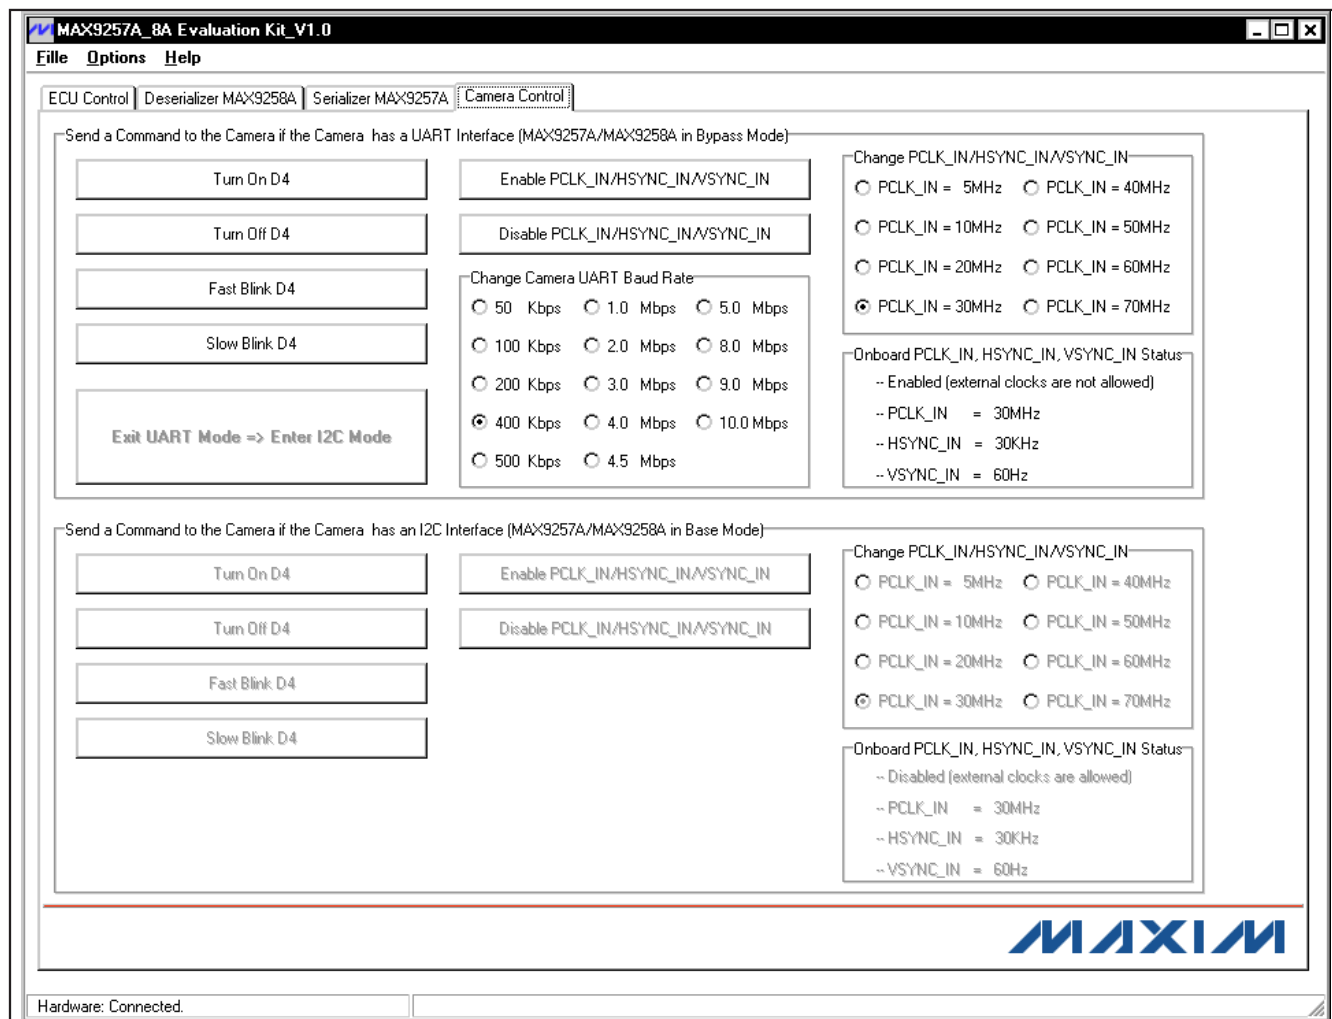

Figure 6. MAX9257A/MAX9258A Evaluation Kit Software—Camera Control Tab
- 23) Click on the **Camera Control** tab to move to the **Camera Control** tab sheet (Figure 6).
On the **Camera Control** tab sheet (Figure 6), the ECU can communicate to the emulated camera during a control-channel session.
- 10) Navigate to the **Camera Control** tab sheet (Figure 6). Press the **Turn On D4**, **Turn Off D4**, **Fast Blink D4**, and **Slow Blink D4** buttons, respectively, to verify that the ECU is communicating to the camera properly.
- 11) Navigate to the **Camera Control** tab sheet (Figure 6). On this tab sheet, all ECU commands to the camera follow this order in one control-channel session:
- Navigate to the **Camera Control** tab sheet (Figure 6) and press the **Exit UART Mode → Enter I²C Mode** button (this button is available only when CTO is not equal to 0).